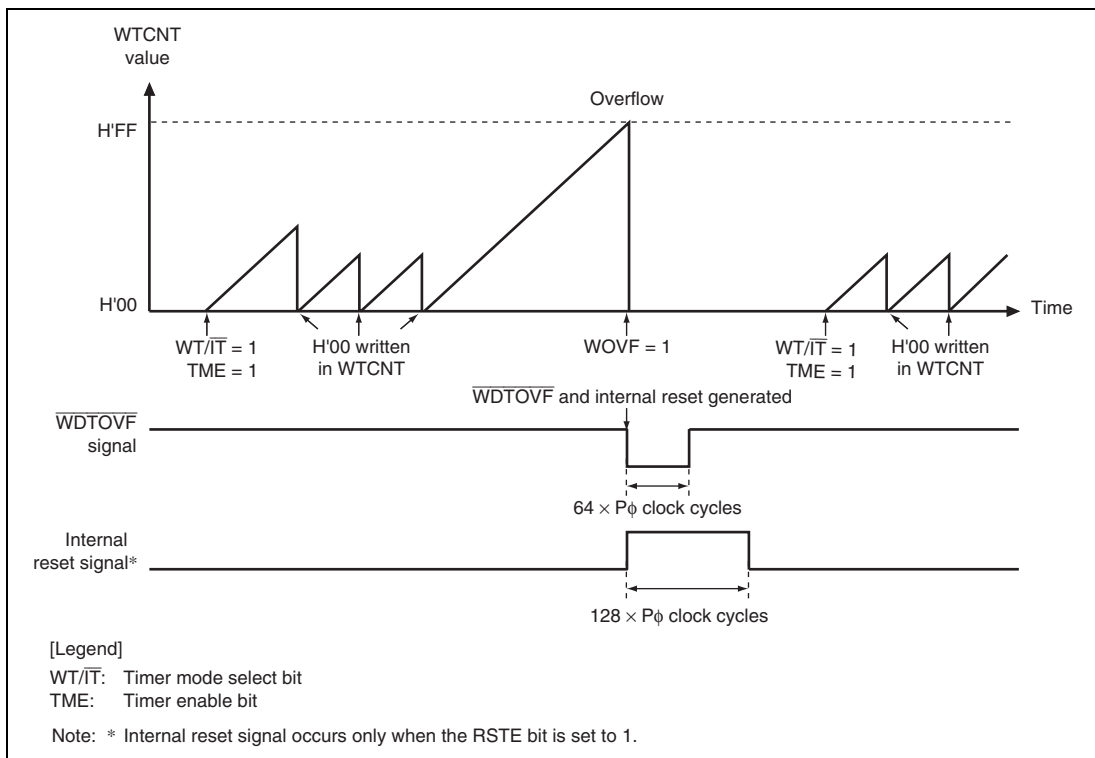

Figure 15.4 Operation in Watchdog Timer Mode
4. When the counter overflows, the WDT sets the WOVF flag in WRCSR to 1, and the \overline{WDTOVF} signal is output externally (figure 15.4). The \overline{WDTOVF} signal can be used to reset the system. The \overline{WDTOVF} signal is output for $64 \times P\phi$ clock cycles.